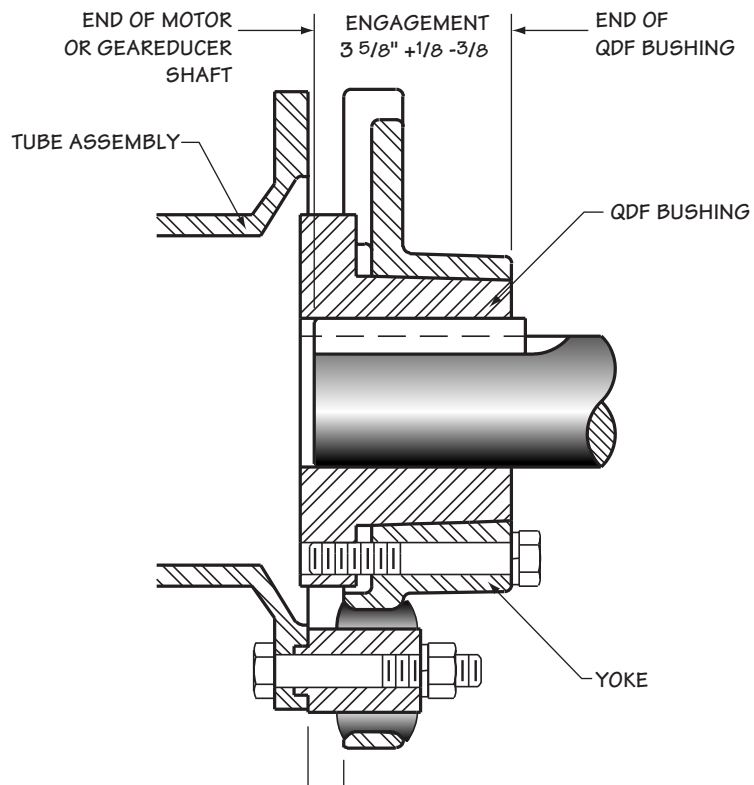

Figure 2
- Start installation at the Geareducer end by slipping the yoke all the way onto the input shaft. Insert the key halfway into the keyway and slide the QDF bushing onto the shaft to obtain 3 5/8" engagement, see Figure 2. Tighten the set screw on the key to 20 ft·lbf (27 N·m) torque.
- Check engagement of the motor bushing on the motor shaft. If the QDF bushing extends beyond the end of the shaft, loosen the motor bushing cap screws and slide the motor in until the QDF bushing flange is within tolerance or adjust the position of the entire driveshaft assembly to get the same engagement at both ends. See Figure 2.
Eliminate any large-scale misalignment before proceeding. A preliminary alignment check can be made by measuring between the driveshaft and yoke flanges. The distance should be approximately $1\frac{1}{16}$ " (17.5mm) measured at four points, see Figure 2. The final adjustment must yield a distance between adjacent points on the tube assembly flanges and coupling on each end that does not vary more than .005" (.13mm) through one complete revolution. A Marley **Driveshaft Alignment Indicator Kit** is available and can be purchased.
- Tighten all mounting bolts on motor and Geareducer, and recheck. Maintain gap between face of flange and face of yoke as shown in Figure 2. Remove dial indicator.
- Measure the distance from the shoulder of the metal insert on the flex bushing to the machined ring face of the yoke. This length should be $1\frac{1}{16}$ " \pm $\frac{1}{32}$ " as shown in Figure 2.